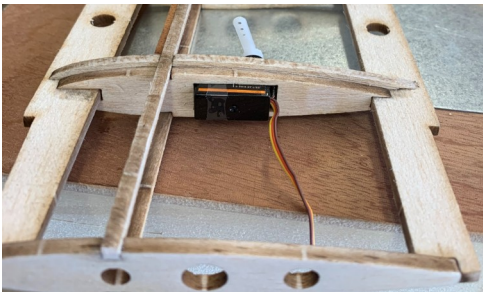

Figure 1 - Rib 2 before trim
8. Sand the top and bottom Spar (12) flush to Rib 1 and 8.
11. Using a long flat razor. Trim off one side of the Rib 2 between the Spar and the trailing edge (See figure 1 & 2). This should be done on the bottom of the wing if the Aileron control will be on the bottom of the wing. Vice-Versa for the if you want the Aileron Control on the top of the wing. Trim Rib 2 flush with Rib 2A. This is to accommodate the sheeting that extends to protect the servo arm. Notice that Rib 2 will look like Rib 1 for that section only. (See figure 1 & 2)